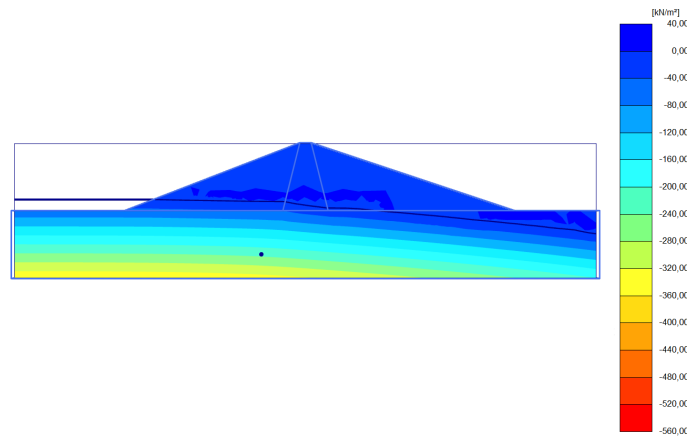

Figure 6.13 Pore water pressure distribution for low reservoir level (Phase\_3)
- The situation with a low reservoir level (Figure 6.13).